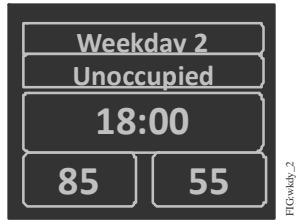

Figure 26: Setting the Weekday 2 Schedule
12. Set the **Weekday 2** schedule (Figure 26).